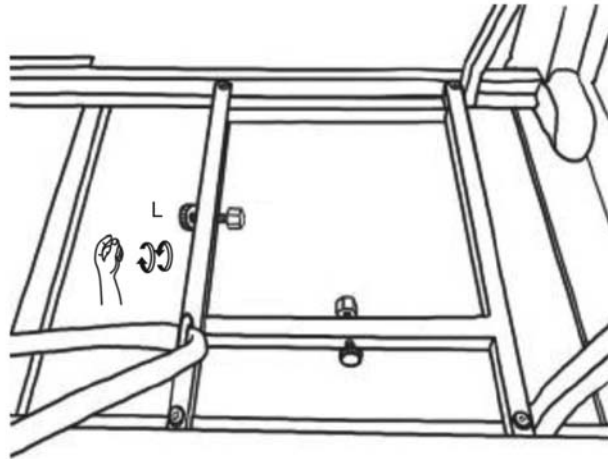

Figure 6
4. Tighten threaded knobs (L) found on tank tray (Figure 6) so that the LP tank cannot move from side to side. Do not remove plastic cap from end of threaded section.